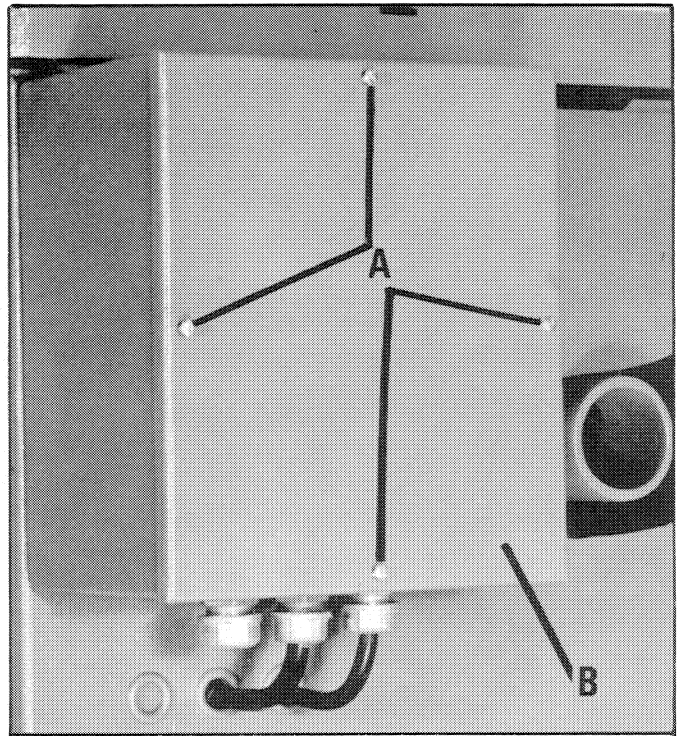

Fig. 4
1. Remove the four screws (A) and the electrical control box cover (B) Fig. 4.